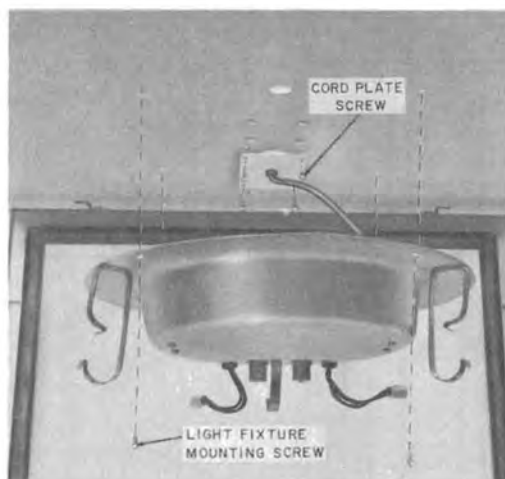

Fig. 9—Removal of B-185379 Light Fixture
- (d) Loosen the four light fixture mounting screws (Fig. 9) and carefully lower the light fixture and place it in dome.
- (e) Remove and retain the cord plate screws (Fig. 9) and dispose of the light fixture in accordance with local regulations.